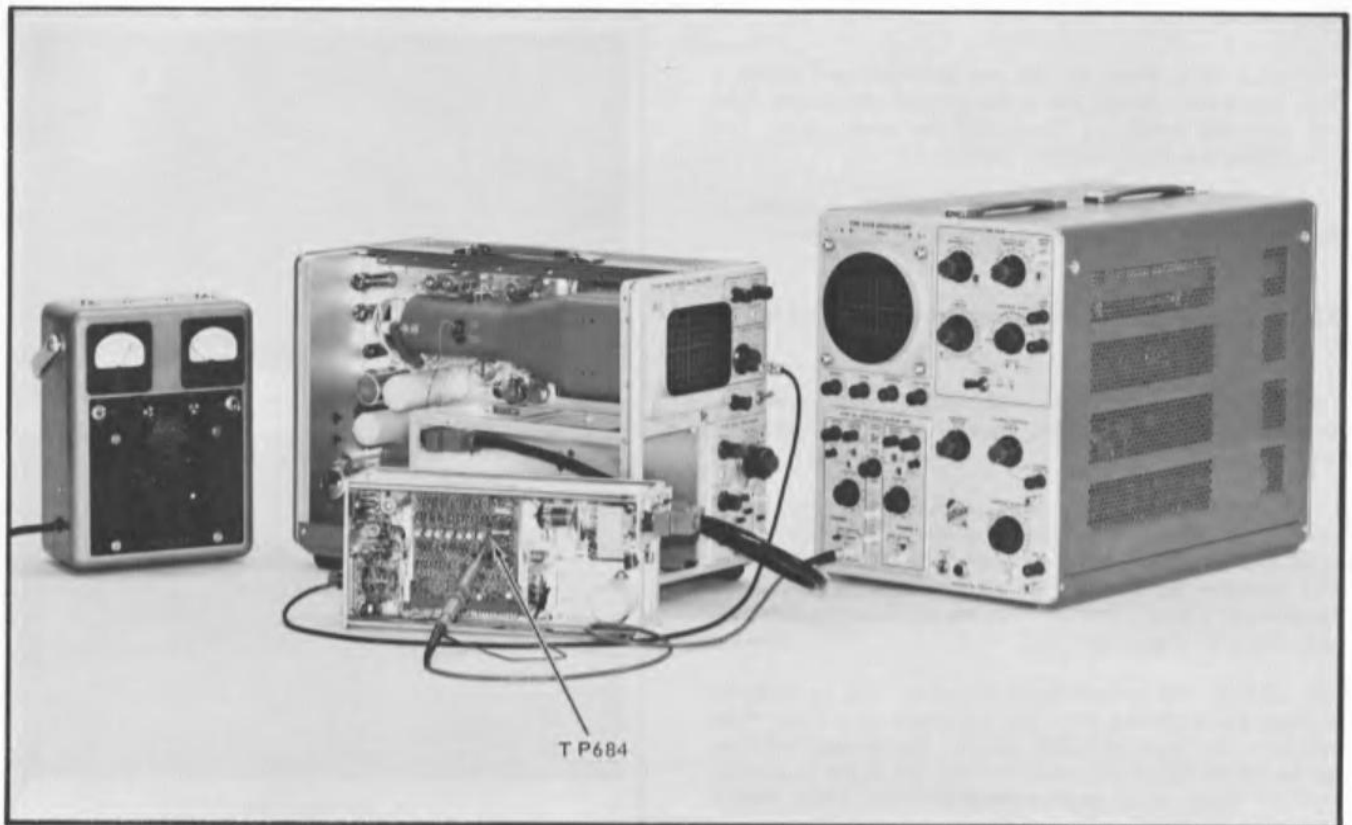

Fig. 6-26. Test equipment setup for checking SEEK multi and Advance pulse times, Step 33.
a. Make the connections and control settings recommended under Fig. 6-26. The display should be 2 divisions peak to peak.